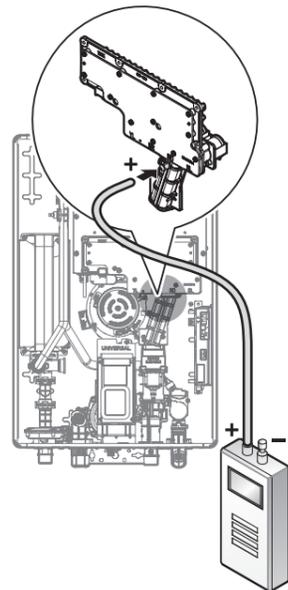

Figure 7
- Connect a silicone hose to the port, ensuring that it is airtight as shown in Figure 7.